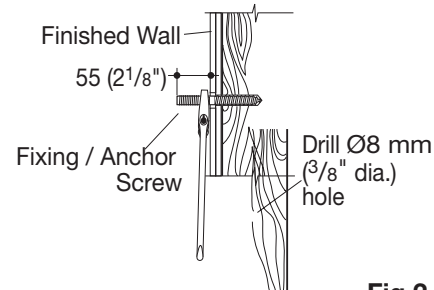

Fig 2
- 3- Insert expansion fasteners into the drilled holes in masonry wall. Screw Fixing/Anchor Screws into the wall using the flats located on the screws section of the stud and spanner as shown in **Figure 2**. Allow 55mm (2 1/8") of thread to protrude from the finished wall.